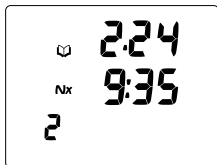

Fig. 49 - LOG PREVIEW
**LOG PREVIEW**, information includes (Fig. 49):